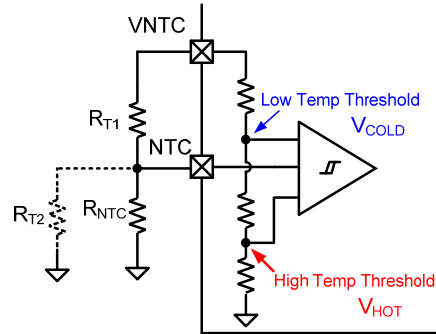

Figure 16: NTC Function Block
Figure 16 shows an internal resistor divider reference circuit that limits both the high and low temperature thresholds at V_{HOT} and V_{COLD} , respectively. For a given NTC thermistor, select an appropriate R_{T1} and R_{T2} value to set the NTC window using Equation (25) and Equation (26):
The following equation calculations are derived assuming that the NTC window is between $0^\circ C$ and $50^\circ C$. According to Equation (25) and Equation (26), use V_{COLD} and V_{HOT} from the EC table to calculate $R_{T1} = 2.27k\Omega$ and $R_{T2} = 6.86k\Omega$ (see Figure 16).